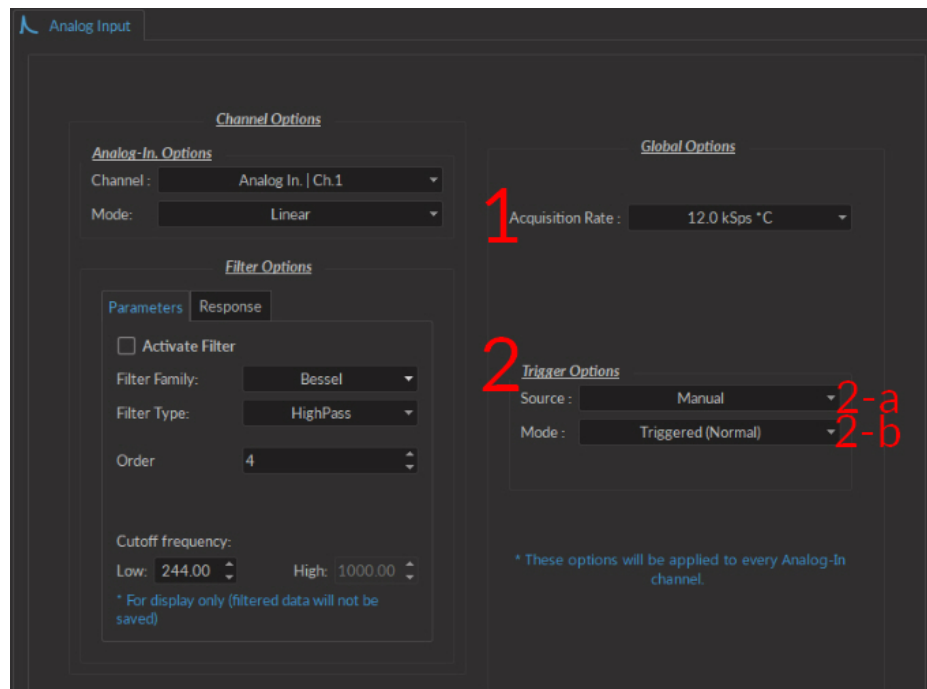

Figure 3.8: Channel(s) configuration window, Analog Input Linear
The **Analog Input** channels (Fig. 3.8) acquire from the **Analog Input** BNC connector ports. For these channels, **Sequence Options** are replaced by **Global Options** concerning the acquisition of data. These **Global Options** are applied to all **Analog input** channels. They use different **Channel Modes** unique to the **Analog Input** channels.
1. The **Acquisition Rate** (Fig. 3.8) is measured in kilosamples per second. A rate of 1 kSps will acquire 1,000 samples per second per channel. During an acquisition, a maximal amount of $3.6 * \text{rate [in kSps]} \text{ MB/min}$ of data are created.
- The **Linear** channel mode (Fig. 3.8) allows the direct measurement of signal received by a channel. The linear mode has the option of a frequency filter, found in the **Filter Options** box.